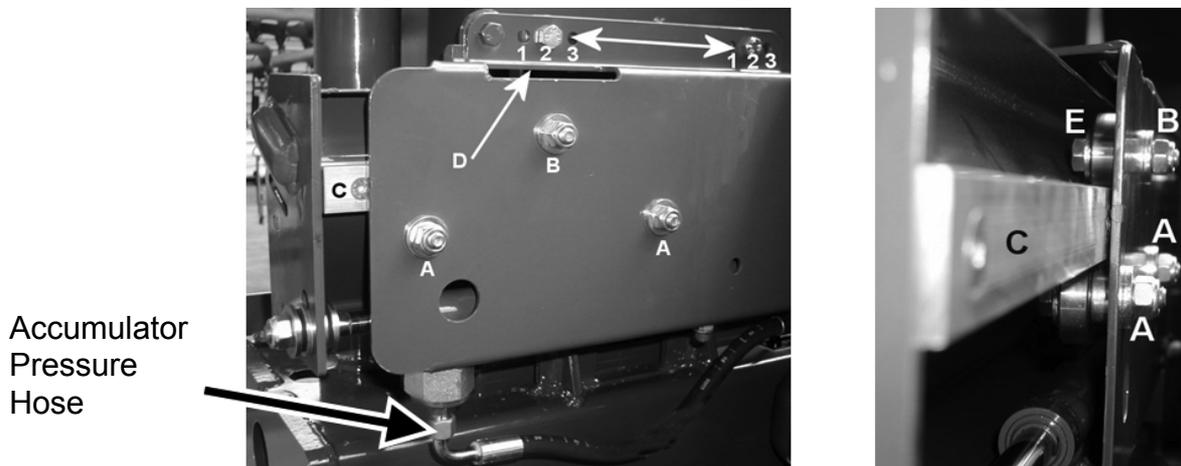

Figure 8.I - Cut and hold rail/horizontal position adjustment
The cut and hold assembly can be adjusted through three (3) different horizontal positions, if desired. The factory set position is position 2 as shown in Figure 8.I. Ensure that cut and hold assembly is safely secured (as assembly is quite heavy) before attempting the following procedure: